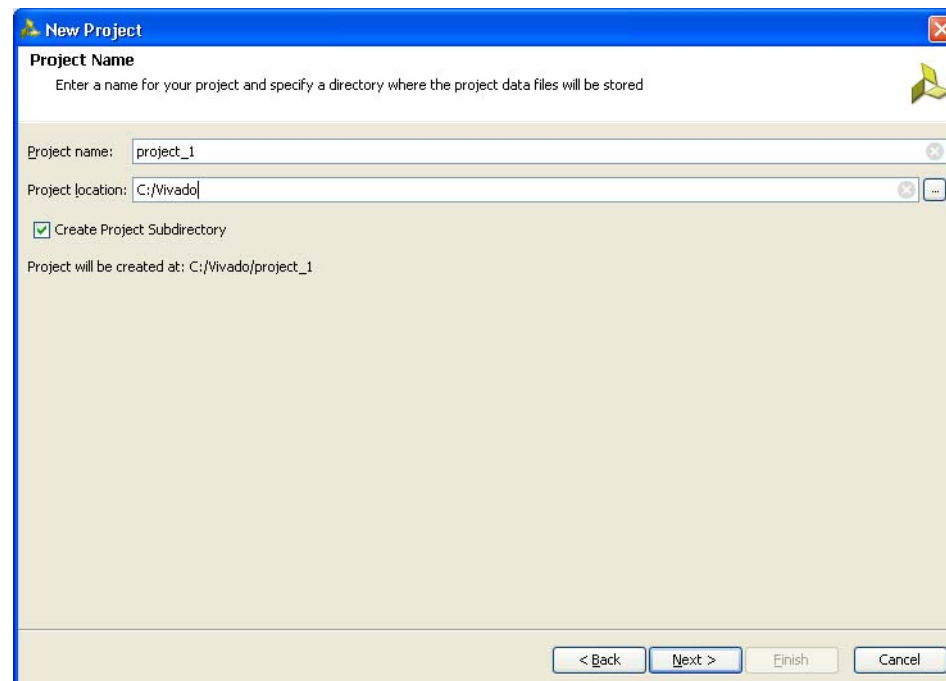

Figure 3-3: Project Name
3. Click **Next** to proceed to the **Project Name** page (Figure 3-3). Enter the **Project Name** and **Project Location**. Based on the details provided, the project is saved in the directory.